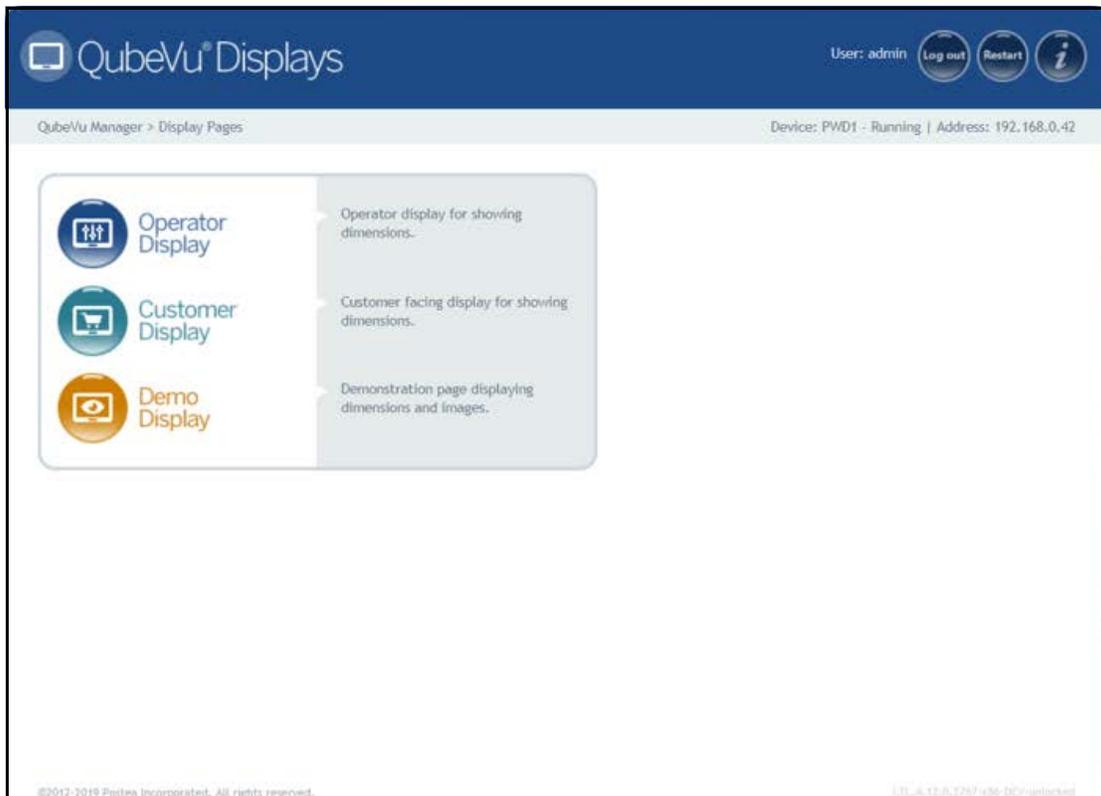

Figure 3-1. Displays Menu
- Press  **Operator Display** from the **Display Pages** menu (Figure 3-1 on page 10) to enter the **Operator Display** menu.
- Press  **Customer Display** from the **Display Pages** menu (Figure 3-1 on page 10) to enter the **Customer Display** menu
- Press  **Demo Display** from the **Display Pages** menu (Figure 3-1 on page 10) to enter the **Demo Display** menu